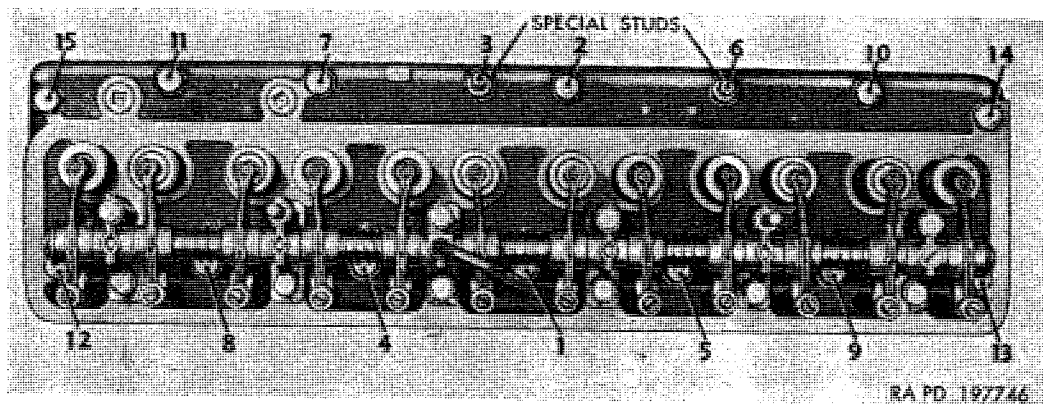

Figure 102. Cylinder head bolt tightening sequence.
Note. Two special studs are used and must be properly located as shown in figure 102.
- (3) Following the sequence indicated in figure 102, tighten cylinder head bolts evenly to recommended torque. Refer to figure 102 and tighten according to bolt head markings (par. 110c).